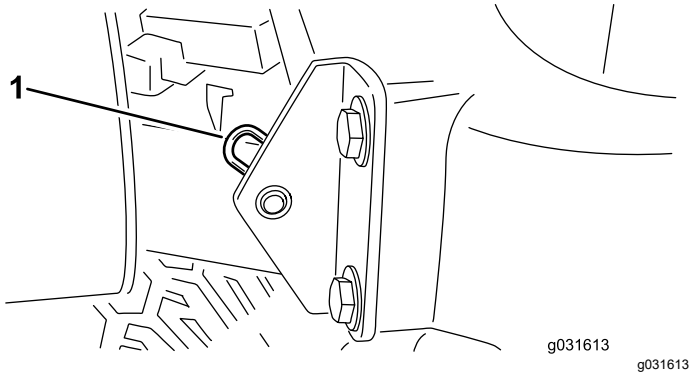

Figure 41
2. Remove the hairpin cotter securing the hood pivot to the mounting brackets (Figure 41).